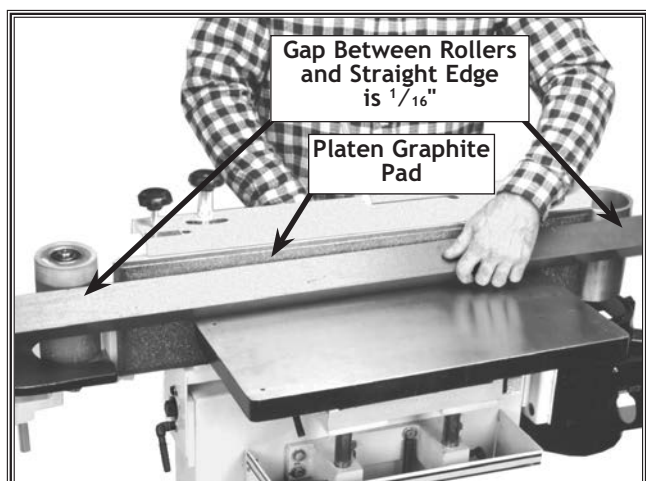

Figure 34. Straight edge across the rollers and touching the platen graphite pad.
the platen toward the straightedge so the platen graphite pad is against the straight-edge at both ends. See Figure 34.
5. Slide the platen outward until there is a gap of $\frac{1}{16}$ " between the rollers and the straight-edge. See Figure 34.